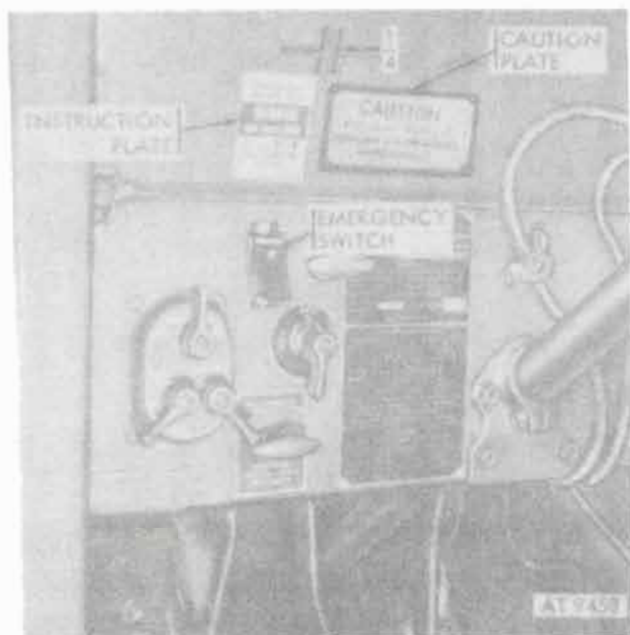

Figure 18-18. Emergency switch installation.
a. Installation of Emergency Switch, Instruction Plate, and Caution Plate (fig. 18-18).
(1) Locate switch at 11/16-inch hole, to left of the ignition switch, from the engine side of the dash panel.
(2) Locate guard assembly over switch toggle and on face of dash panel. Attach guard assembly with two screws and lockwashers.
(3) Locate instruction plate at 5/64-inch holes in windshield assembly and attach with four screws.
(4) Locate caution plate (fig. 18-18) at right of instruction plate and install. See figure 18-18.